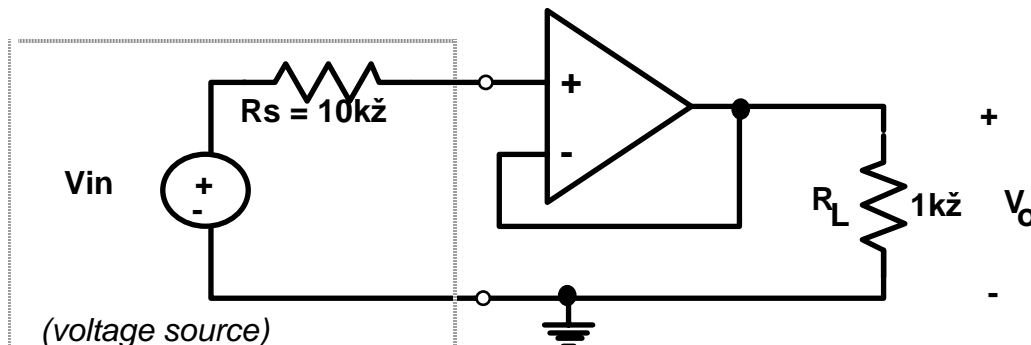

Figure 9.3
In Figure 9.3 an "ideal" op amp voltage follower is placed in between the source and the load (see Figure 9.1). Using the voltage-controlled voltage source approach described above for an ideal SPICE op amp, determine the voltage V_o and the power dissipation (V_o^2/R) in R_L in this case for V_{in} varying from -10 to +10 volts in 0.5 volt steps. Use a voltage gain of 10^6 . Provide a labeled sketch of your SPICE circuit, and compare the results at $V_{in} = -10, 0$ and +10 volts to a hand analysis of the circuit.
(III) Perform another SPICE analysis of the circuit of Figure 9.3, but with the voltage gain of the op amp set to 10^2 instead of 10^6 . Explain the results.
- (2) Construct the circuit of Figure 9.3 using the Heathkit trainer and a type 741 op amp. Use the ± 12 volt supplies on the trainer to power the op amp. Vary the input voltage from -10 to $+10$ volts in 0.5 volt steps. Carefully measure the voltage and current in R_L and the voltage at the input to the op amp for each step.
- (3) Now construct an op amp circuit with a nominal gain of -10 (inverting amplifier) and apply a series of input voltages ranging from -2 to 2 volts in 0.2 volt steps. Record the output voltage at each value of input voltage.